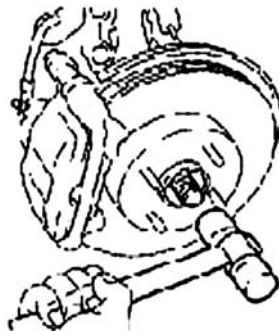

Figure 25
17. Detach front propeller assembly. See (Figure 25)